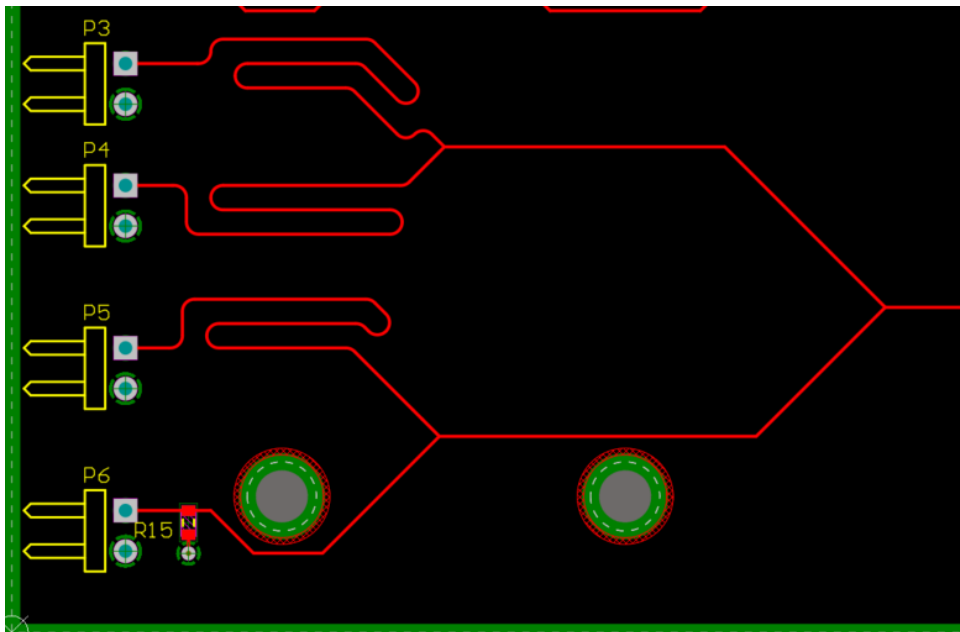

Figure 23. First Trombone length tuning
66. Start length tuning each route for components P3, P4 and P5 as shown in Figure 23. Once the Length Guide Indicator turns greens, this means the routes will adhere to our rule.